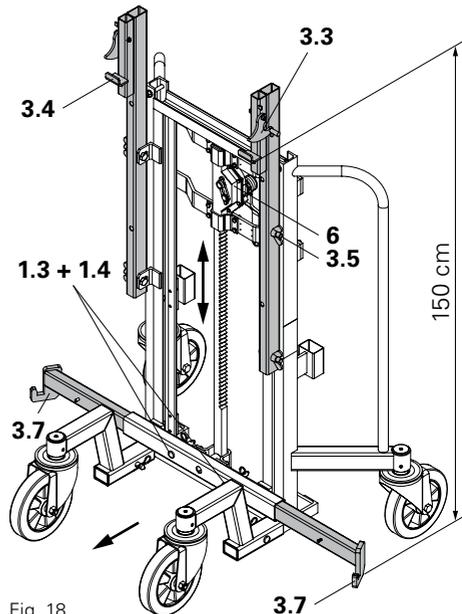

Fig. 18
(Fig. 18)
3. Pre-adjust Connector height with the Winch (6). (Fig. 18)